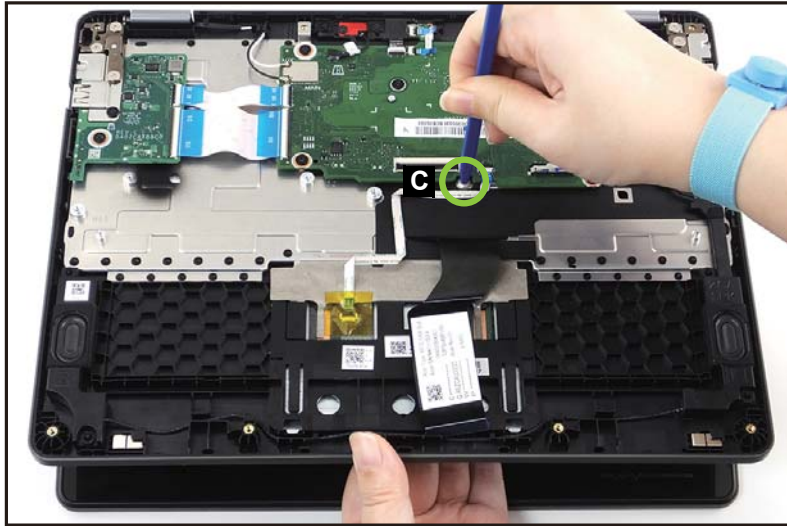

Figure 1-22. Keyboard Removal
- Using a pointed tool, push the screw hole (C) firmly to release the keyboard from the top assembly (Figure 1-22).